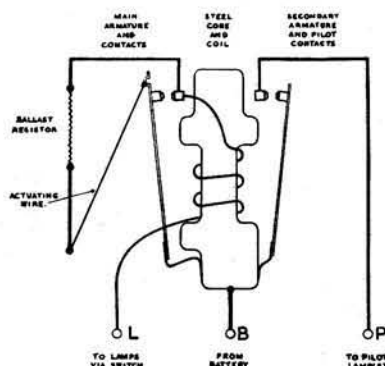

Fig.10.25. Flasher unit wiring diagram
- 2 Refer to the wiring diagram at Fig.10.25 and check all circuit connections.